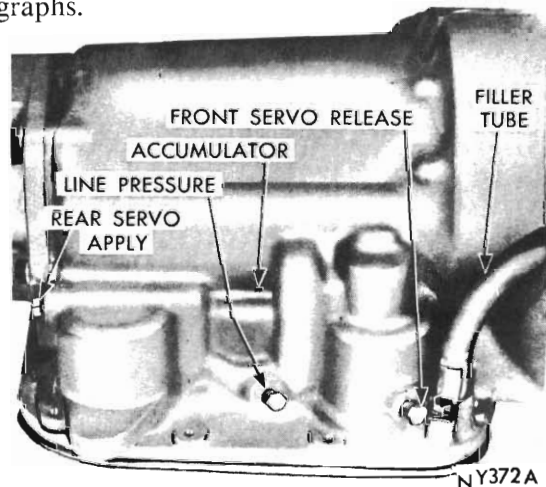

Fig. 26 - Pressure test locations (right side of case)
(2) Connect two 100 P.S.I. pressure gauges, Tool CA-3292 to pressure take-off points at side of accumulator and at front servo release (Fig. 26).
(3) With control in D (drive) position, speed up engine slightly until transmission shifts into direct. (Front servo release will be pressurised in direct.) Reduce engine speed slowly to 1,000 R.P.M. Line pressure at this speed must be 54-60 P.S.I. and front servo release must not be more than 3 P.S.I. below the line pressure.
(4) Disconnect throttle linkage from transmission throttle lever and move throttle lever gradually to the full throttle position. Line pressure must rise to a maximum of 90-96 P.S.I. just before or at kickdown into low gear. Front servo release pressure must follow line pressure up to kickdown point and should not be more than 3 P.S.I. below line pressure.
(1) Install an engine tachometer, raise vehicle on a hoist and position tachometer so it can be read under the vehicle.
(2) Connect two 0-100 p.s.i. pressure gauges, Tool E21C65 to pressure take-off-points at side of accumulator and at front servo release (Fig. 26).
(3) With control in D (drive) position, speed up engine slightly until transmission shifts into direct. (Front servo release will be pressurised in direct.) Reduce engine speed slowly to 1,000 r.p.m. Line pressure at this time (1,000 r.p.m.) must be 54-60 p.s.i., and front servo release pressure must not be more than 3 p.s.i. below the line pressure.
(4) Disconnect throttle linkage from transmission throttle lever and move throttle lever gradually to the full throttle position. Line pressure must rise to a maximum of 90-96 p.s.i. just before or at kick-down into low gear. Front servo release pressure must follow line pressure up to kickdown point and should not be more than 3 p.s.i. below line pressure.